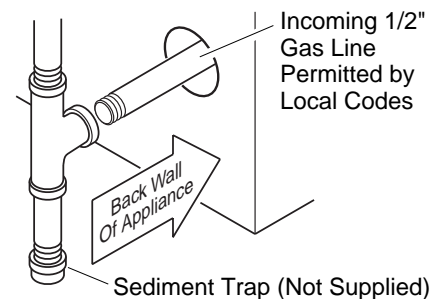

Figure 39 - Sediment Trap
Route a 1/2" NPT black iron gas line towards the appliance coming in from the left. It is recommended to route the pipe between the stand of the firebox and the surround of the fireplace (see Figure 39).
1. Install a sediment trap between the incoming gas line and the gas control valve (see Figure 39). The sediment trap should extend down the center of the pipe. Refer to your local codes.